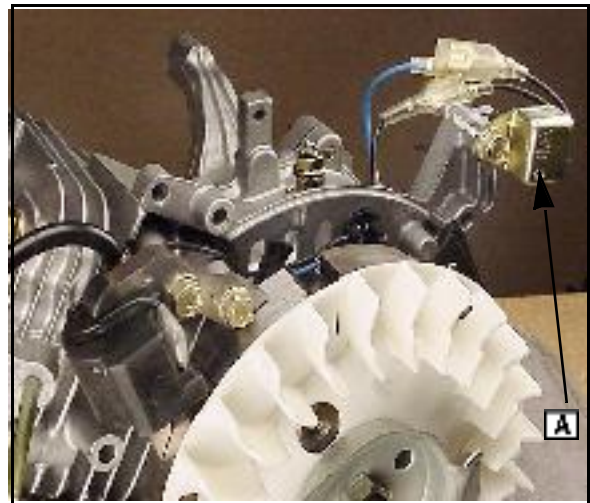

Fig. 7
8. Position the Oil Gard® module ([A] Fig. 7) as shown.